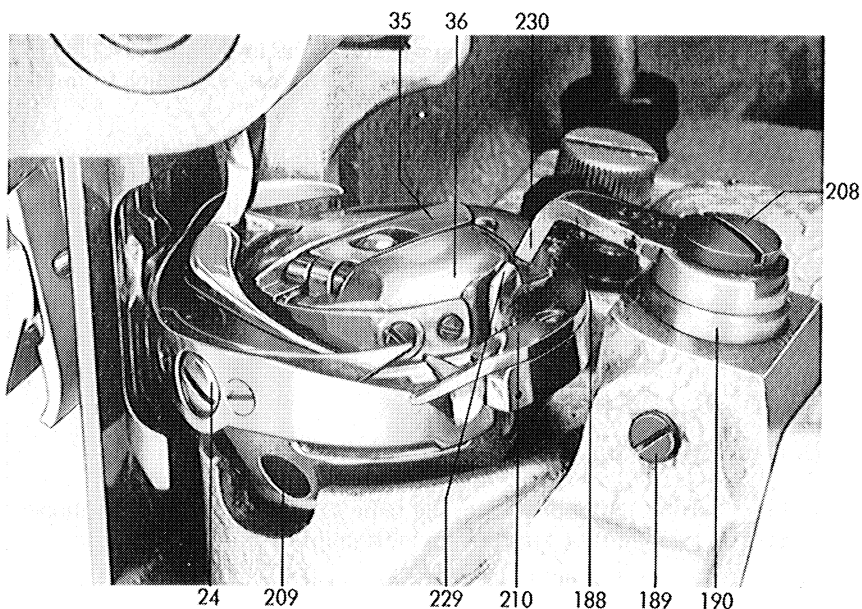

Fig. 9
5. Removing the bobbin case top with bobbin (figs. 9 and 10)